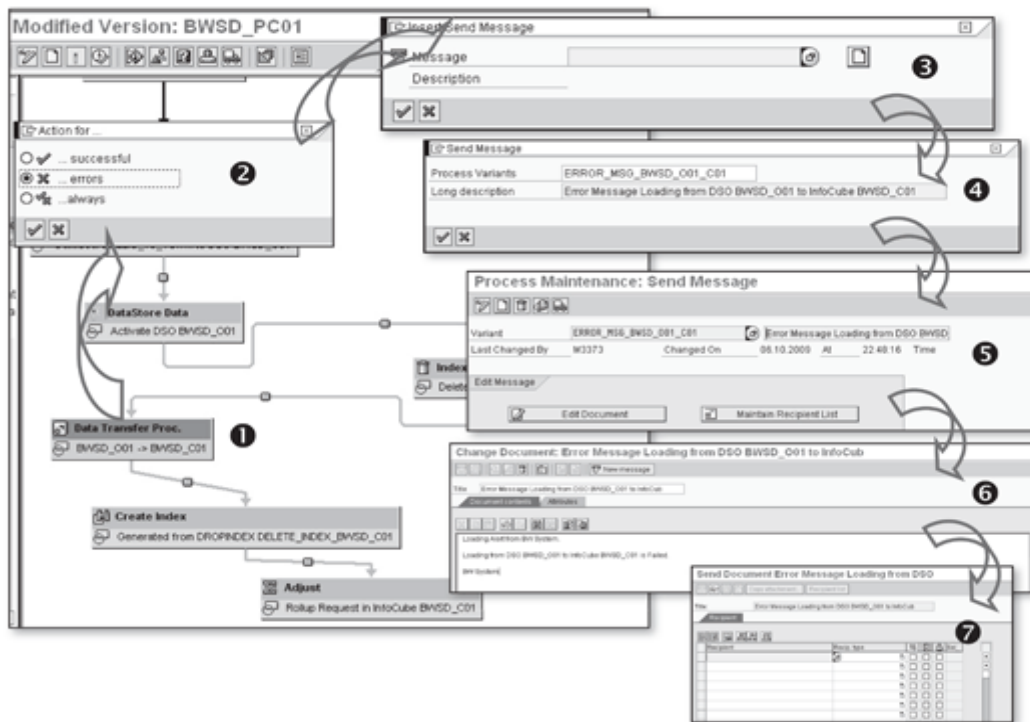

Figure 14.36 Process Maintenance – Send Message
In the Action For pop-up box, select the Errors radio button (❷ of Figure 14.36), and click the Continue icon. In the Insert Send Message box (❸), you can choose an existing message from the dropdown list, or create a new one by clicking the Create icon (❹). Now a Send Message box appears, which has two fields. Enter the following: